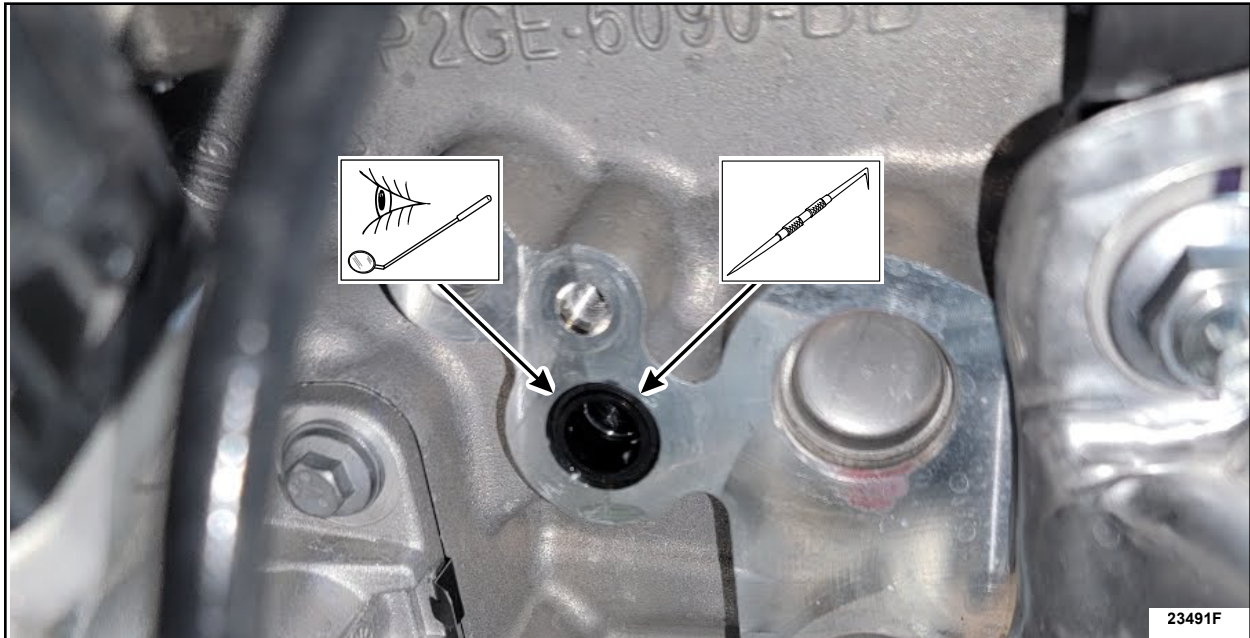

FIGURE 6
10. Remove and discard the turbocharger coolant return tube seal (will most likely be in the engine cylinder head). See Figure 6.